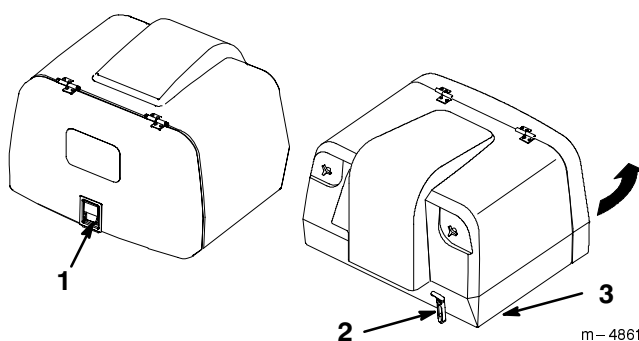

Figure 21
3. Unhook the front latch on hopper (Fig. 21).
4. Lift up on the hopper in the lower front (Fig. 21).
5. Unhook the rear door latch and dump the clippings (Fig. 21).
6. Lower the hopper. Firmly secure the hopper door so it latches and secure the front hopper latch (Fig. 21).